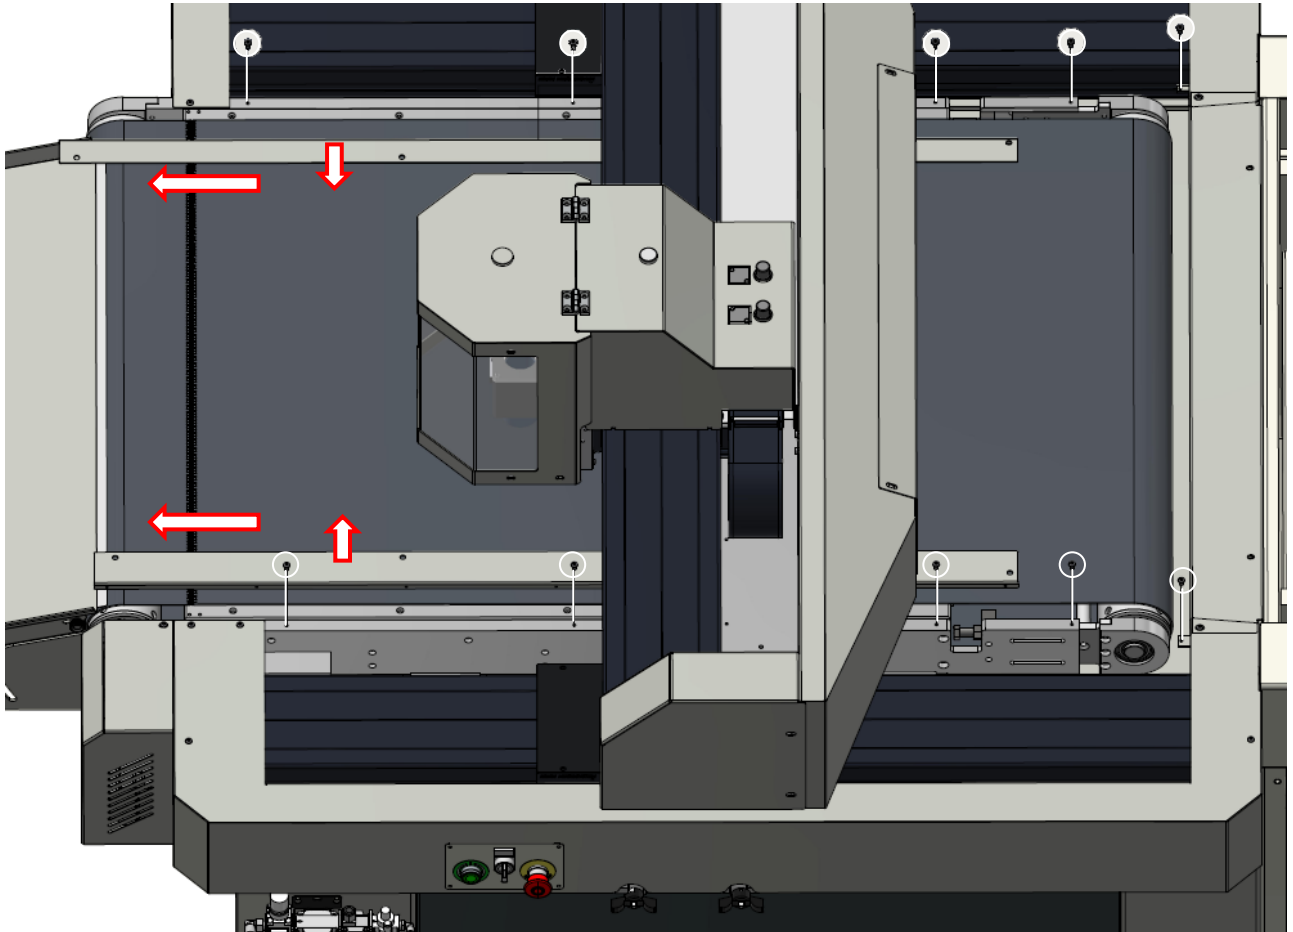

Figure 6-4
- Re-tighten and refasten the two protection strips previously removed Figure 6-4.